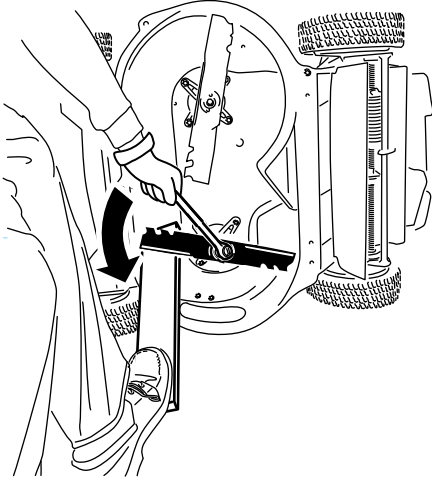

Figure 40
1. Use a block of wood to hold each blade steady and turn the blade bolt counterclockwise as shown in Figure 40.